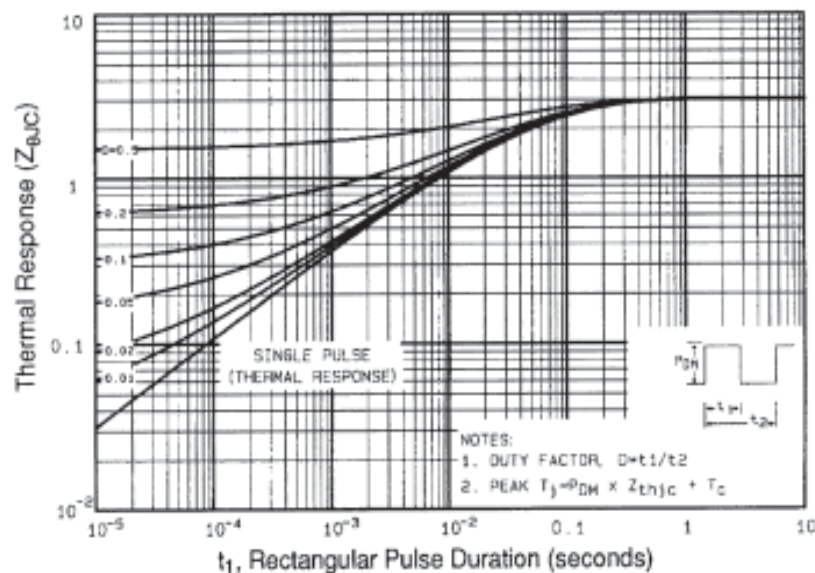

Fig 11. Maximum Effective Transient Thermal Impedance, Junction-to-Case
① Repetitive rating; pulse width limited by max. junction temperature (See Figure 11)
③ $I_{SD} \leq 17A$, $di/dt \leq 110A/\mu s$, $V_{DD} \leq V_{(BR)DSS}$, $T_J \leq 150^\circ\text{C}$